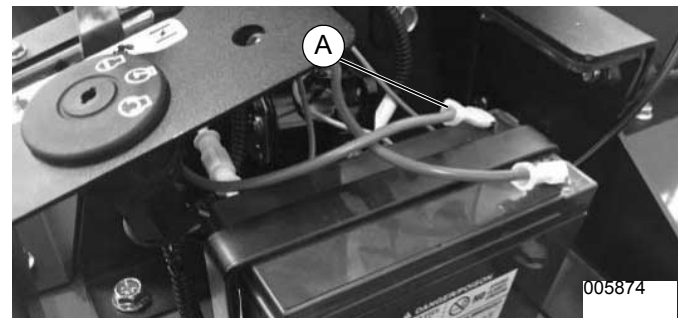

Figure 2-13. Connecting Battery Cable
1. See Figure 2-13. Connect negative cable (A) to negative (-) battery terminal.